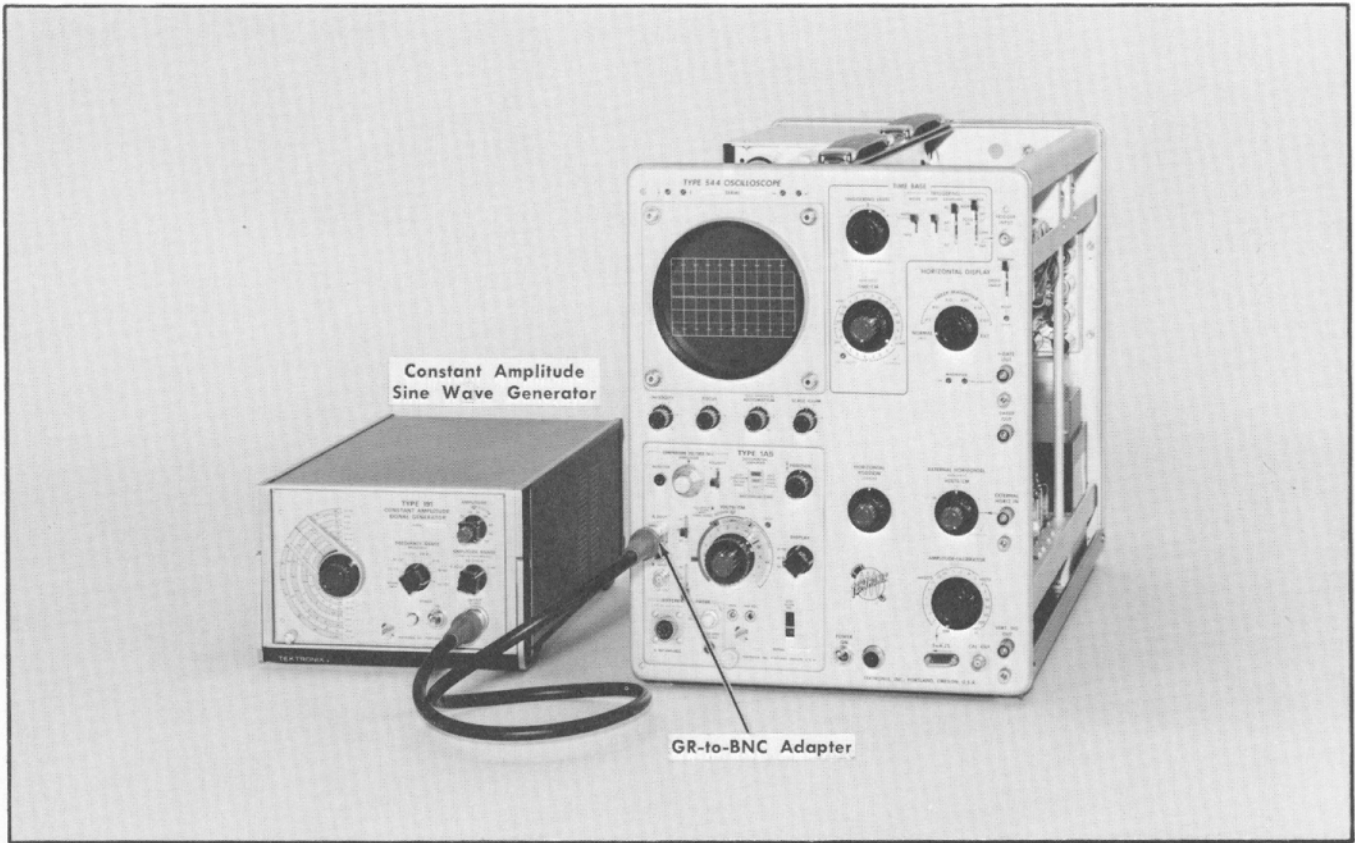

Fig. 6-27. Equipment setup for steps 23 and 24.
- a. Equipment setup is shown in Fig. 6-27.
- (1) Set the VOLTS/CM control to indicated setting.
- (2) Set the Constant Amplitude Signal Generator frequency to 50 kHz and adjust its amplitude to provide 4 cm display amplitude.
- (3) Set the frequency of the Constant Amplitude Signal Generator to the value opposite the applicable VOLTS/CM setting in Table 6-9.